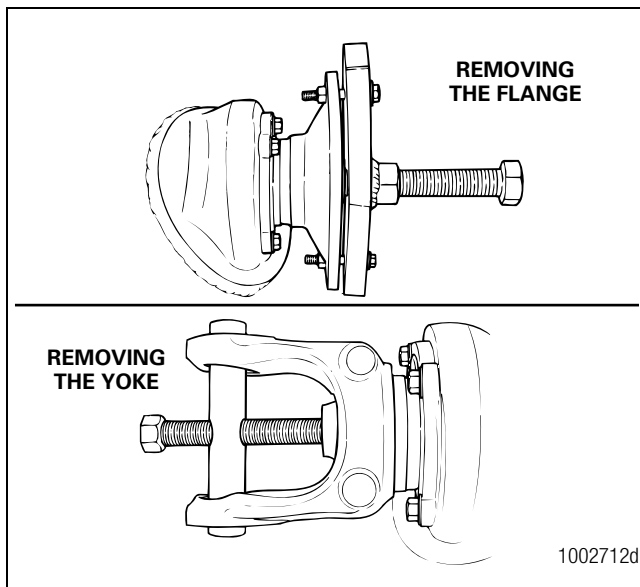

Figure 3.14
3. Remove the thru-shaft nut, washer and yoke or flange. Use a puller tool to remove the yoke or flange from the shaft. Figure 3.14.